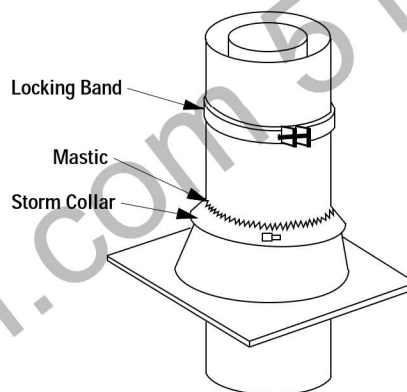

Figure 28
Step 7. The standard Security FTF10 roof flashing assemblies include a storm collar. Slide the storm collar over outer chimney, rest on flashing spacers and align with top surface of flashing. Insert tab in slot, pull tight and bend tab back over slot. Seal storm collar to outer chimney with roof caulking or mastic around entire circumference of pipe. Also add extra roof caulking to the tab/slot area to seal completely against water penetration (Figure 28). Check all joints very carefully to ensure no water intrusion can take place.